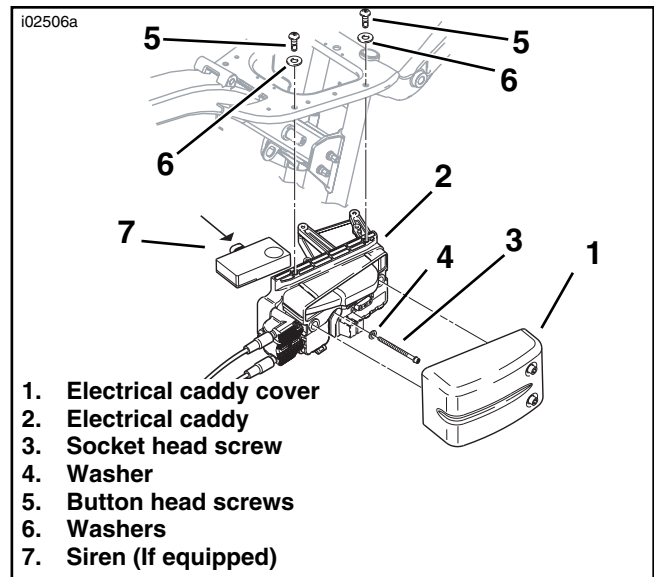

Figure 7. Electrical Caddy Removal
20. See Figure 7. Firmly grasp both sides of the electrical caddy cover (1) pull outward to remove. Remove the maxi-fuse.